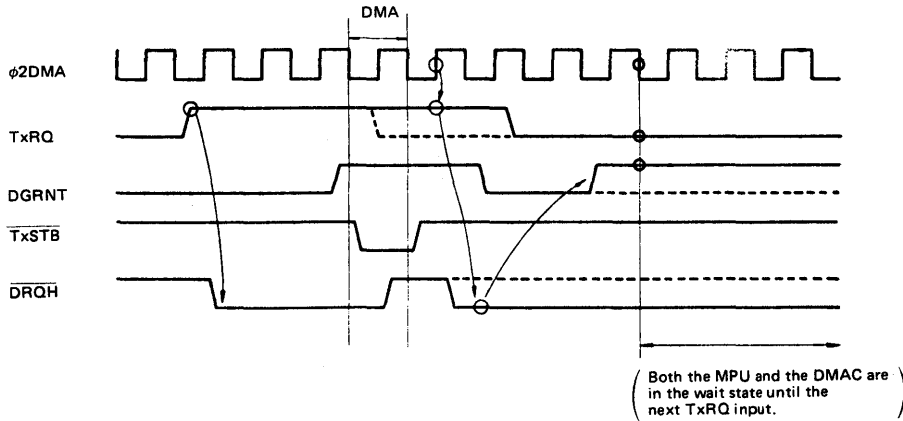

Figure 15 Extraordinary TxRQ Input (2)
- (2) In the case where TxRQ is not reset to "Low" though  $\overline{TxSTB}$  has been driven. In this case, unless TxRQ returns to "Low" by the time  $\phi_2$ DMA rises after  $\overline{TxSTB}$  has risen to "High", it is considered as a new I/O request, which leads the above-mentioned operation ①,② → If TxRQ falls to "Low" immediately after that, the same state as (1) happens (Fig. 15).